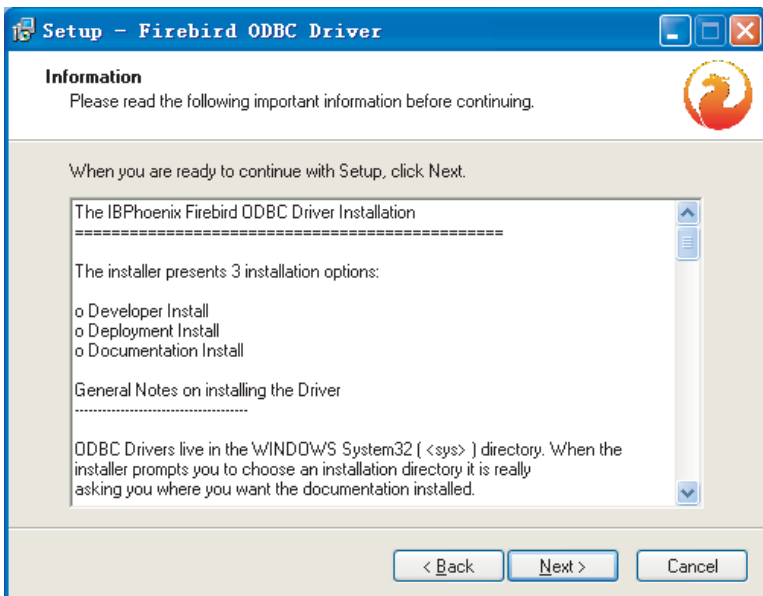

Fig. 2-16
3) Installation window as Fig.2-16, click "Next" to continue: